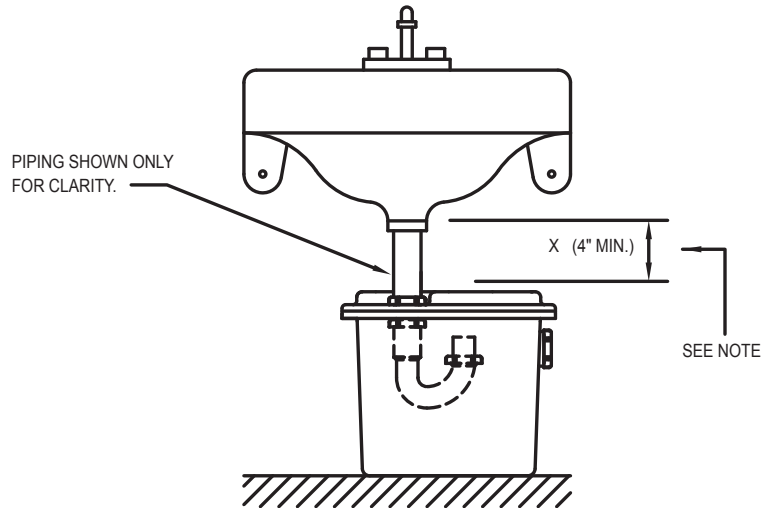

Figure 1.1A
1.1) Figure 1.1A and 1.1B are typical configurations for installation of the drain systems. The actual configuration will vary depending on your cabinet and sink configuration.